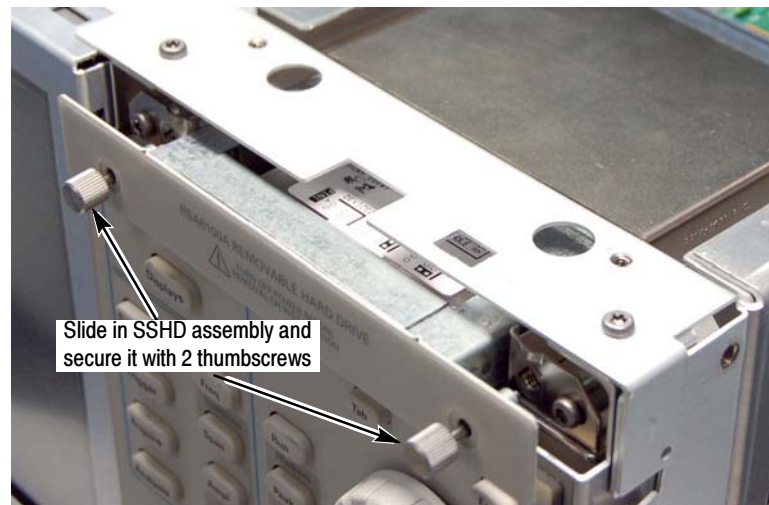

Figure 22: Installing the solid-state hard drive
1. Slide the SSHD into the drive opening until the connector fully engages, and then secure it with the two thumbscrews. See Figure 22.